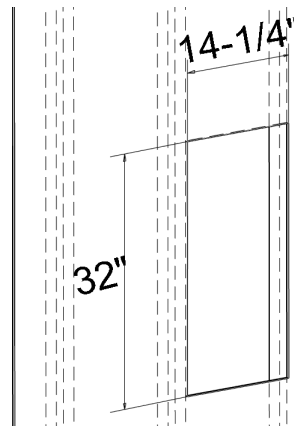

Figure 5
2. Prepare a wall opening following the dimensions shown in Figure 5. Note that 4" minimum depth including thickness of dry wall is required. Make sure there is enough clearance for the cable coming out from the bottom of the fire place.